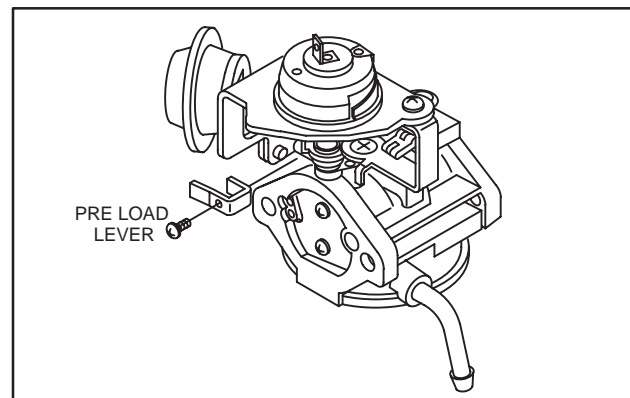

Fig. 47 – Assembling Pre-load Lever
9. Assemble choke pre-load lever to choke shaft, Fig. 47.